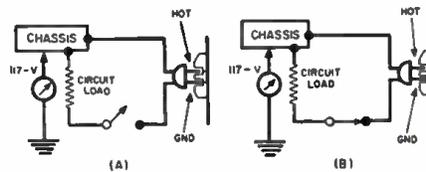
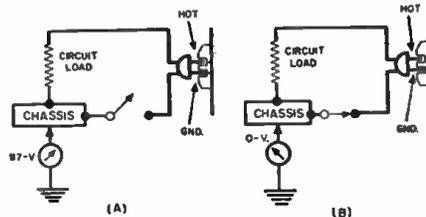
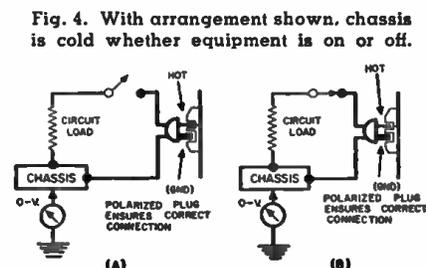

Fig. 1. With power-switch location shown, shock hazard is always present.
Fig. 2. In this arrangement, chassis is hot only when equipment is turned off.
Fig. 4. With arrangement shown, chassis is cold whether equipment is on or off.
There are two basic a.c.-d.c. circuit designs. For each, safety is affected by the two possible ways of connecting the equipment to the power receptacle. In addition, safety is affected by the two operating positions of the power-control switch. A survey of possible switch locations is included in Figs. 1 through 4.
The two basic designs, irrespective of other conditions, are illustrated in Figs. 1 and 2. Figs. 4 and 3 are of the same circuits as Figs. 1 and 2 respectively, but are shown with the line cords reversed in the power receptacle. Part (A) of each figure is shown with the power switch in the "open" condition; part (B) of each with the switch in the "closed" condition. The individual circuit diagrams incorporate voltmeter indications to show at a glance the critical readings between chassis and earth ground. Table 1 presents a summary of features to be discussed.
Fig. 1 presents the classic case in which danger from electrical shock exists under all conditions of equipment operation. The line cord is plugged into the receptacle in a manner that connects the equipment chassis directly to the hot side of the power line. Operation of the power switch to either the open or closed position does not succeed in removing the connection between chassis and the hot line because the switch operates in the ground line. The operator of equipment wired in this manner who comes into contact with the chassis while also in contact with a source of earth ground (plumbing in the home, etc.), will inevitably receive an electric shock.
Fig. 2 is the case in which danger from electric shock exists only in the "equipment off" condition. In this case the line cord is plugged into the receptacle in a manner that connects the hot side of the power line to the equipment load. With the switch open, the ground line is open and the hot line potential is applied to the chassis. When the power control switch is closed, the ground side of the power line is connected to the equipment chassis and the operator touching the chassis or its exposed metal parts is safe from electric shock. The effect of shock with the switch off in this case may be less severe than in the case of Fig. 1, incidentally, since the circuit load drops some of the available voltage and limits the current when the body completes the path to earth ground.
A circuit that combines the better characteristics of the circuits in Figs 2B and 3A is shown in Fig. 4. This configuration places the chassis in the leg of the circuit connected to the ground side of the power line, and places the power-control switch in the leg of the circuit connected to the hot side of the power line. Careful examination will indicate that this arrangement, exclusive of the polarity of the connection to the power receptacle, is identical to the "dangerous" design shown in Fig. 1. Note therefore that, once the desired design is chosen, safety becomes